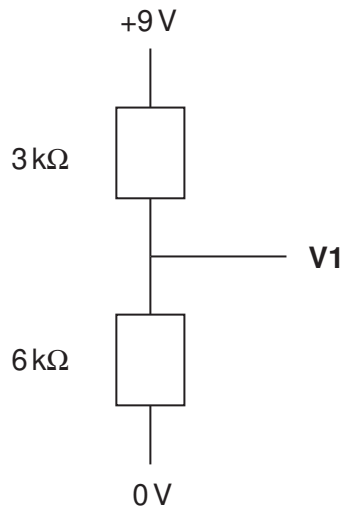

Fig. 4
- (b) Calculate the output voltage at **V1** in the arrangement of resistors shown in Fig. 4. [3]